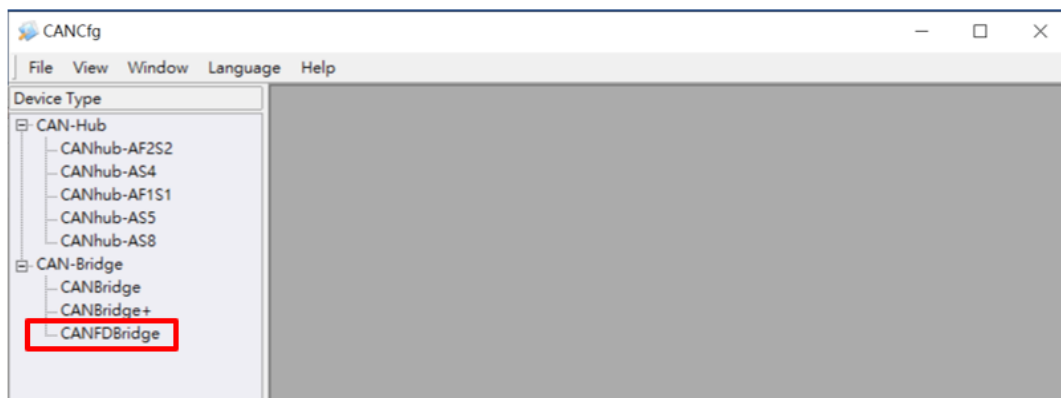

Figure F-10 CANFDBridge Setup Window
2. Click CANFDBridge to go to the setup page as shown in Figure F-10.